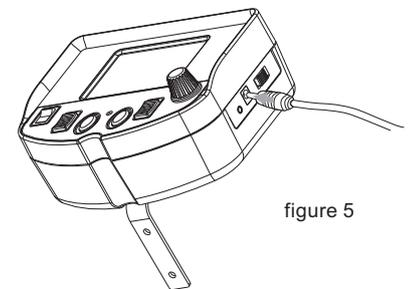

figure 5
9.1 Connect adapter to 110V-240V AV power, plug the DC charger into charging hole. See figure 5: